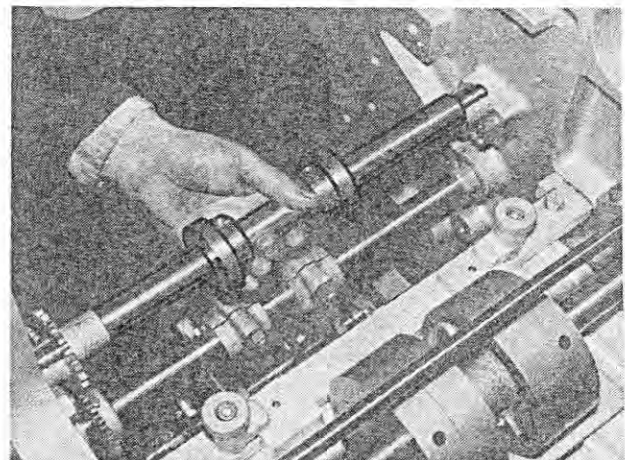

Fig. 261
2. Remove the folding box and the accelerating roller (Figure 261).